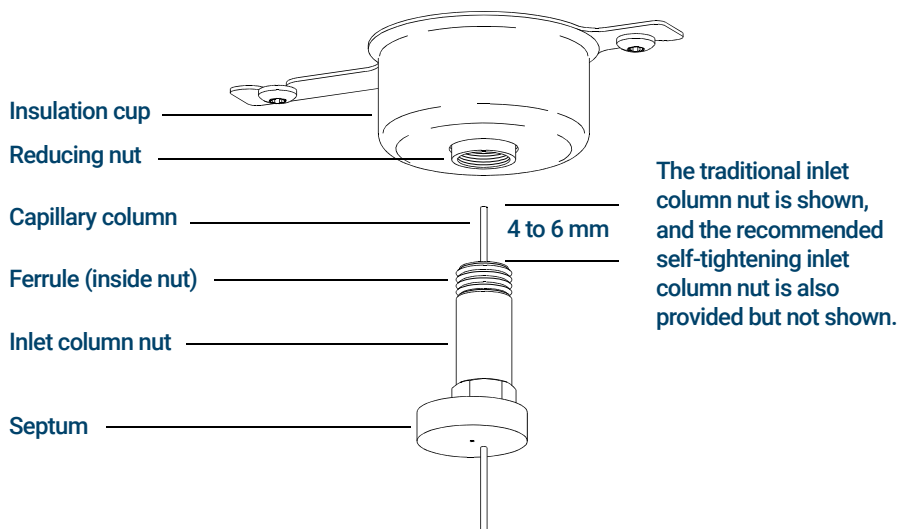

Figure 19. Installing a capillary column for a split/splitless inlet
- 7 Position the septum under the column nut so that the column extends 4 to 6 mm past the end of the ferrule. (See **Figure 19** on page 82.)
For the standard column nut, (shown in Figure 19) tighten the nut an additional 1/4 to 1/2 turn. The column should not slide with a gentle tug.